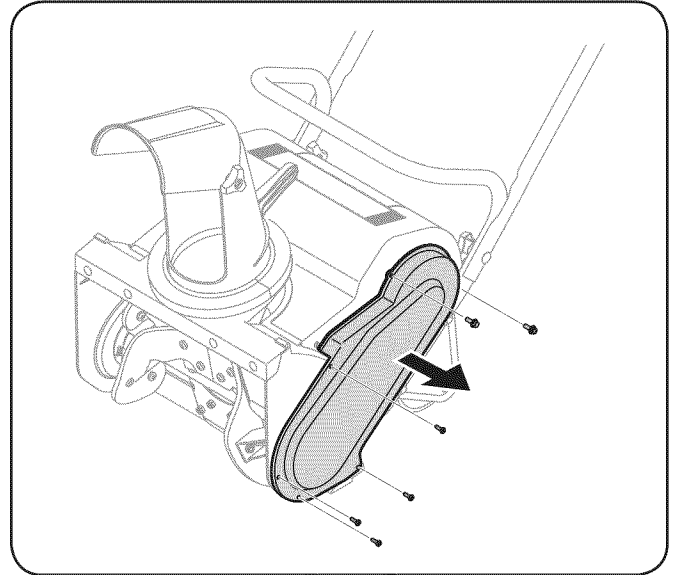

Figure 7-2
1. Unscrew the six screws securing the belt cover to the auger housing and remove the belt cover. See Fig. 7-2.